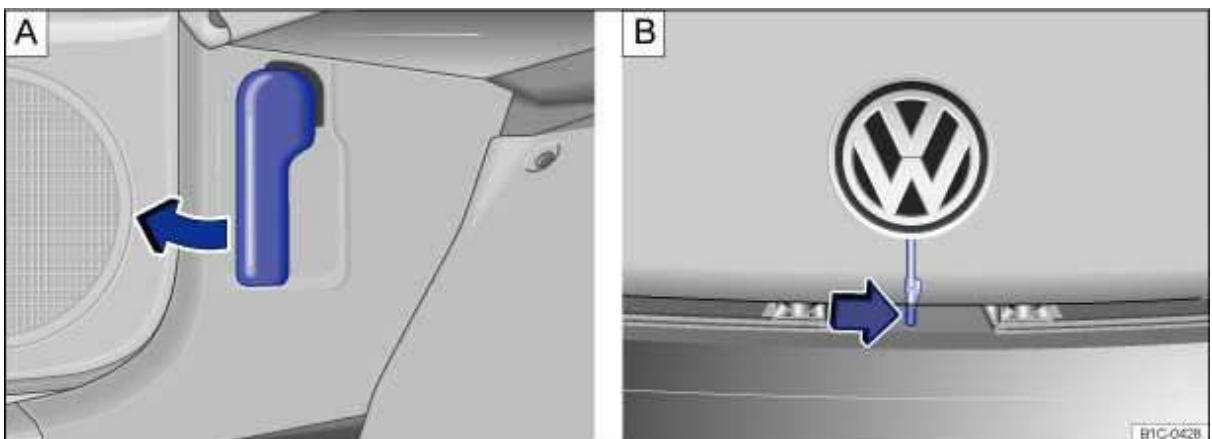

Fig. 114 A Inside hood release lever in the footwell on the driver side.△Outside hood release in the radiator grille.
- Open the driver door and pull the inside hood release lever in the direction of the arrow ⇒ fig. 114